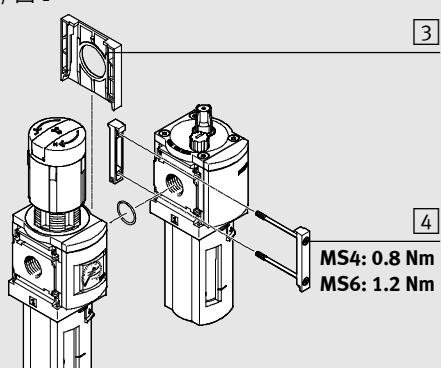

Fig. 2 / 图 2
3. Place the module connectors MS4/6-MV [4] in the grooves of the MS4/6-LOE and the adjoining service unit. There must be a seal between the service units (→ Fig 2).